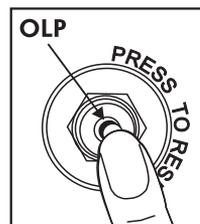

Fig.4
- Let the motor cool down for a couple of minutes and then reset the OLP by pressing the red button situated at the bottom of the body. (refer Fig. 4)